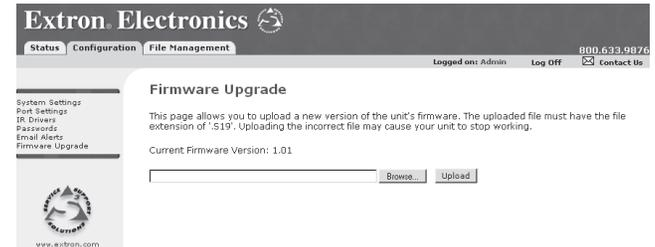

Figure 4-16 — Web server Firmware Upgrade screen
1. Click Firmware Upgrade on the menu (on the left side of the window) and the Firmware Upgrade screen (figure 4-16) is displayed.